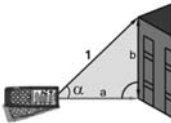

Fig. 12: Distance test with trigonometric calculation
3. Position the instrument in the point (1) corresponding to the value of the desired measuring angle " α " (varying between $\pm 65^\circ$ with transversal tilt not higher than $\pm 10^\circ$) shown on the first display and press the  key or the side **MEAS** key (see Fig. 12)
4. The value of distance "1" is shown on the resulting display. The value of distance "a" is shown on the third display, calculated as: $a = (1) * \cos\alpha$. The value of distance "b" is shown on the second display, calculated as: $b = (1) * \sin\alpha$ (see Fig. 12)